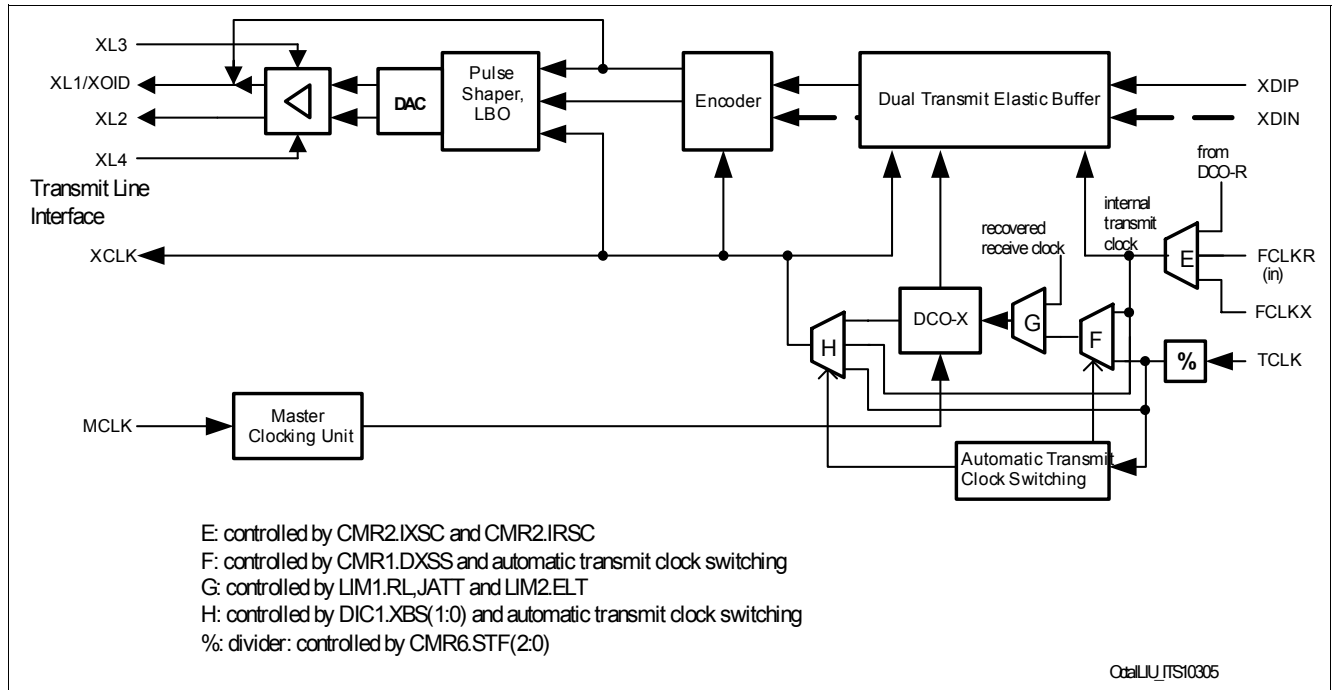
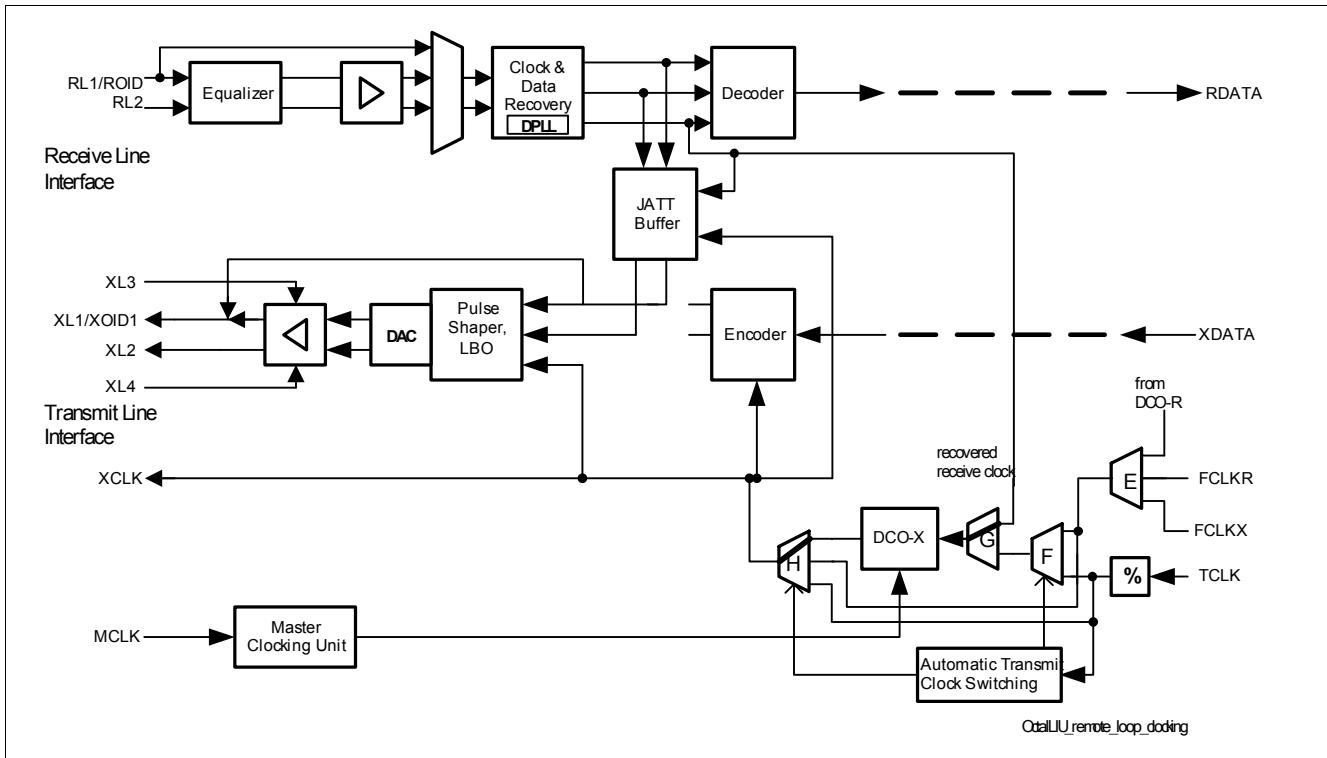

Figure 29 Transmit System of one Channel
Figure 31 Clocking and Data in Remote Loop Configuration
The transmit path of the OctaLIU™ is shown in Figure 29.
The transmit clock input TCLK (multi function port) of the OctaLIU™ can be configured for 1.544, 3.088, 6.176, 12.352 and 24.704 MHz input frequency in T1/J1 mode and 2.048, 4.096, 8.192, 16.384 and 32.768 MHz input frequency in E1 mode. Frequency selection is done by the register bits CMR6.STF(2:0) (CMR6). See divider “%” in Figure 29.
- If the TCLK input is used directly as source for the transmit clock XCLK, the output of the DCO-X is not used. The DCO-X reference clock is FCLKX. If loss of TCLK is detected, the transmit clock XCLK will be switched automatically (if CMR6.ATCS = '1') to the DCO-X output which is synchronous to FCLKX (see multiplexer “H” in Figure 29). If XCLK was switched to the DCO-X output and TCLK becomes active, switching of XCLK (back
- If the transmit clock XCLK is sourced by the DCO-X output and the DCO-X reference clock is TCLK, the DCO-X reference will be switched automatically (if $CMR6.ATCS = '1'$) to FCLKX (see multiplexer “F” in Figure 29) after a loss of TCLK was detected. If the DCO-X reference was switched to FCLKX and TCLK becomes active, switching of the reference (back) to TCLK is automatically performed if $CMR6.ATCS = '1'$. All switchings of the reference between TCLK and FCLKX are shown in the interrupt status bit $ISR7.XCLKSS1$ which is masked by $IMR7.XCLKSS1$. For these kinds of automatically switching, the transmit clock XCLK fulfills the jitter-, wander- and frequency deviation- requirements as specified for E1/T1 after the clock source of the DCO-X was changed. If $CMR6.ATCS$ is cleared, TCLK is used (again) as reference for the DCO-X, independent if TCLK is lost or not. The interrupt status bit $ISR7.XCLKSS1$ will be set also.
The transmit jitter attenuator is based on the so called DCO-X (digital clock oscillator, transmit) in the transmit path. Jitter attenuation of the transmit data is done in the transmit elastic buffer, see Figure 29. The DCO-X circuitry generates a “jitter-free” transmit clock and meets the E1 requirements of ITU-T I.431, G. 736 to 739, G.823 and ETSI TBR12/13 and the T1 requirements of AT&T PUB 62411, PUB 43802, TR-TSY 009, TR-TSY 253, TR-TSY 499 and ITU-T I.431, G.703 and G. 824. The DCO-X circuitry works internally with the same high frequency clock as the DCO-R. It synchronizes either to the working clock of the transmit system interface (internal transmit clock) or the clock provided on multi function pin TCLK or the receive clock RCLK (remote loop/loop-timed). The DCO-X attenuates the incoming jitter starting at its corner frequency with 20 dB per decade fall-off. With the jitter attenuated clock, which is directly depending on the phase difference of the incoming clock and the jitter attenuated clock, data is read from the transmit elastic buffer (512/386 bit) or from the JATT buffer (512/386 bit, remote loop), see Figure 31. Wander with a jitter frequency below the corner frequency is passed transparently.
The jitter attenuated clock is output on pin XCLK if the transmit jitter attenuator is enabled, see multiplexer “H” in Figure 29.
The transmit jitter attenuator can be disabled. In that case data is read from the transmit elastic buffer with the clock sourced on pin TCLK, see multiplexer “H” in Figure 29. Synchronization between FCLKX and TCLK has to be done externally.
In the loop-timed clock configuration (LIM2.ELT) the DCO-X circuitry generates a transmit clock which is frequency synchronized on RCLK, see Figure 31 and multiplexers “G” and “F” in Figure 29. In this configuration the transmit elastic buffer has to be enabled.
The received single rail bit stream from pin XDI or dual rail bit stream from the pins XDIP and XDIN are optionally stored in the transmit elastic buffer, see Figure 29. The transmit elastic buffer is organized as the receive elastic buffer. The functions are also equal to the receive side. Programming of the dual transmit buffer size is done by DIC1.XBS(1:0) in the same way as programming of the dual receive buffer size by DIC1.RBS(1:0), see Table 21:
Writing of received data from XDIP/XDIN is controlled by the internal transmit clock. Selection of FCLKX or FCLKR is possible, see multiplexer “E” in Figure 29. (If the DCO-R output is selected, the DCO_R output is also output at FCLKR.)